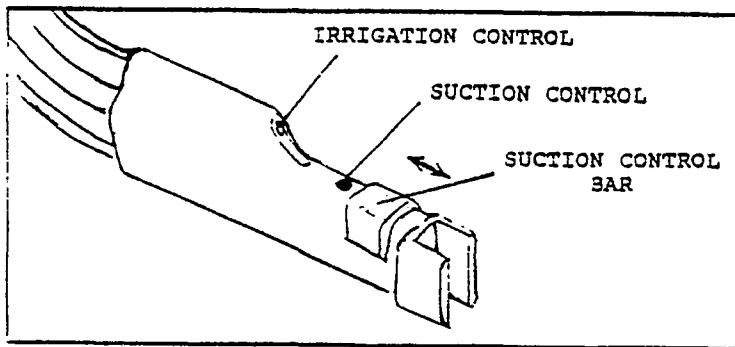

Figure 8
13. To activate irrigation place finger over irrigation control hole on handpiece. Remove finger from hole to stop irrigation. See figure 8.
14. To activate suction place finger over suction control hole on handpiece. Remove finger from hole to stop suction. For continuous suction slide suction control bar over suction control hole. Slide suction control bar forward to discontinue continuous suction. See figure 8.